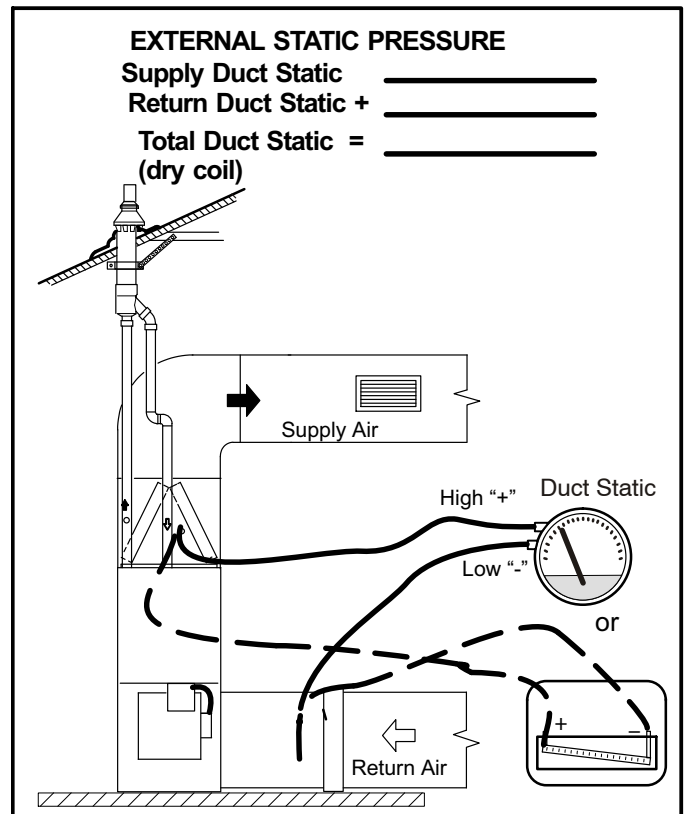

FIGURE 59
- 1 - Tap locations shown in figure 59.